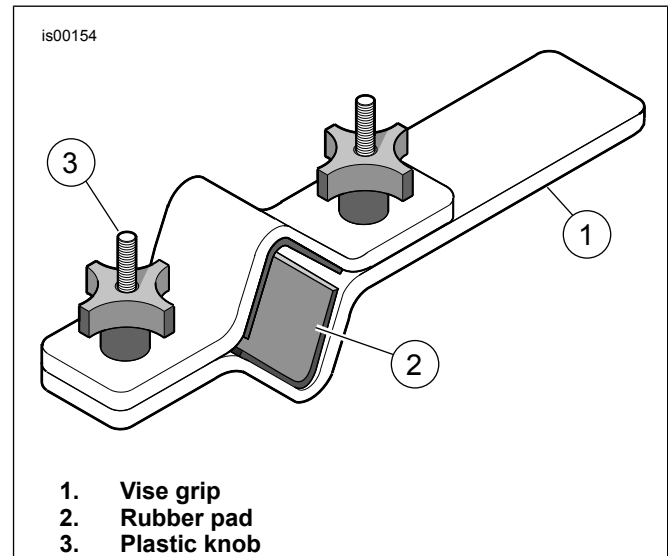

Figure 1. Fork Tube Holder (HD-41177)
2. See Figure 1. Obtain FORK TUBE HOLDER (HD-41177) and proceed as follows:
- a. Clamp end of tool in vise (1) in a horizontal position with plastic knobs facing toward you.
- b. With the fork cap bolt topside, clamp fork tube between rubber pads (2) on inboard side of tool. Tighten knobs (3) until fork tube is securely held.